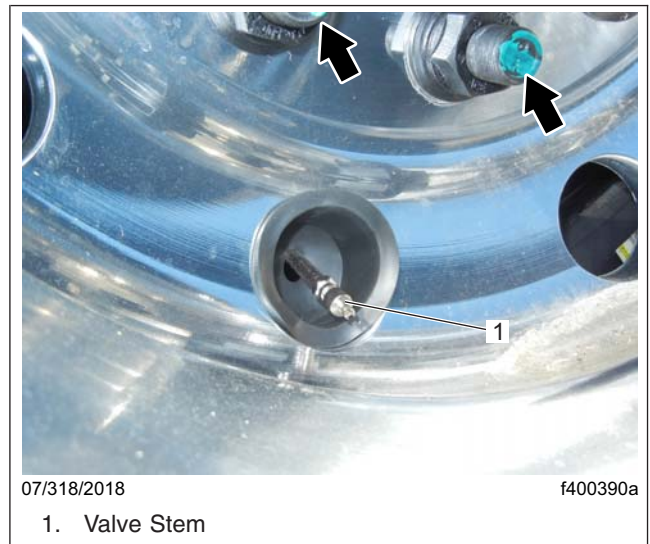

Fig. 3, Marking Wheel Studs
5. Mark the two studs closest to the valve stem, as shown in Fig. 3, for proper wheel assembly location when installing the wheel assembly on the hub again.